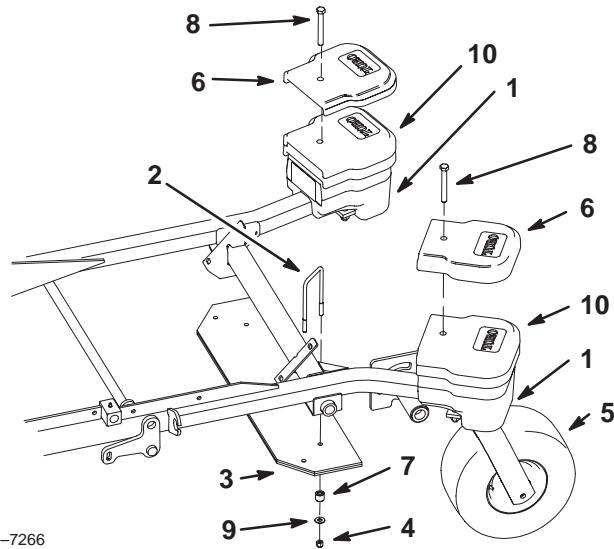

Figure 1
1. Place the top weights on top of the front caster weights (Fig. 1).
2. Secure the top weights with a bolt (1/2 x 4 inch) (Fig. 1).
4. Install the single weight plate onto the machine frame with 2 U-bolts (3/8 x 6 inch), 2 spacers, 2 washers (3/8 inch), and 2 nuts (3/8 inch) (Fig. 1).